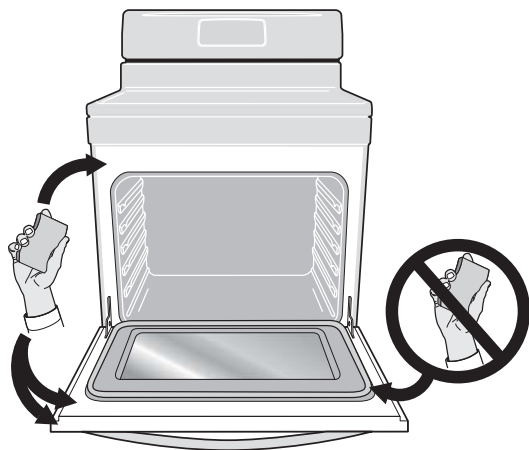

Figure 14: Areas to clean and to avoid
- Do not use oven cleaners or oven protective coatings in or around any part of the oven interior. Clean any soil from the oven frame, the door liner outside the oven door gasket, and the small area at the front center of the oven bottom (See Figure 14). These areas heat sufficiently to burn soil on. Clean using soap and water prior to starting Self Clean.
- Do not clean the oven door gasket (See Figure 14). The woven material in the gasket is essential for a good seal. Care should be taken not to rub, damage, or remove the oven door gasket. Doing so could cause damage to the door gasket and compromise the performance of the oven.